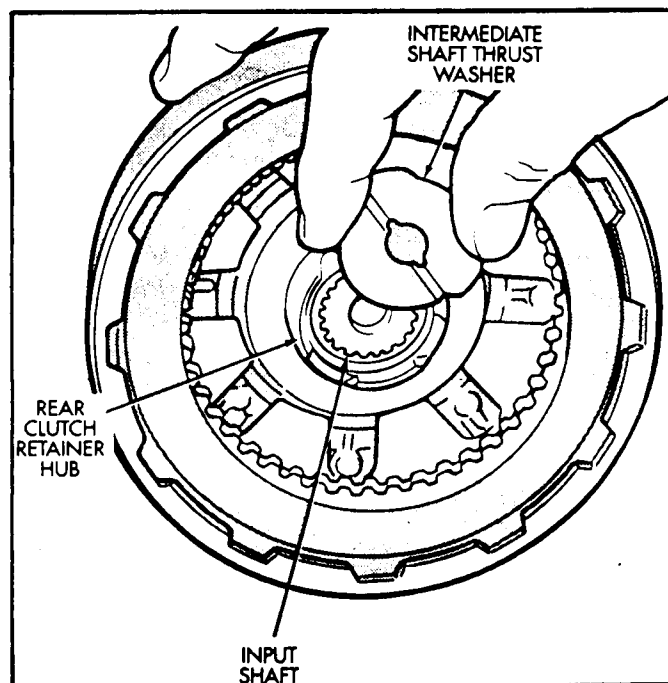

Figure 135
17. Ensure that the selective thrust washer is in place on the rear clutch drum as shown in Figure 135.
18. Be sure grooved side of the washer is facing out (toward output shaft), as shown in Figure 135. Also note that washer only fits one way into the rear clutch hub (See Figure 135).